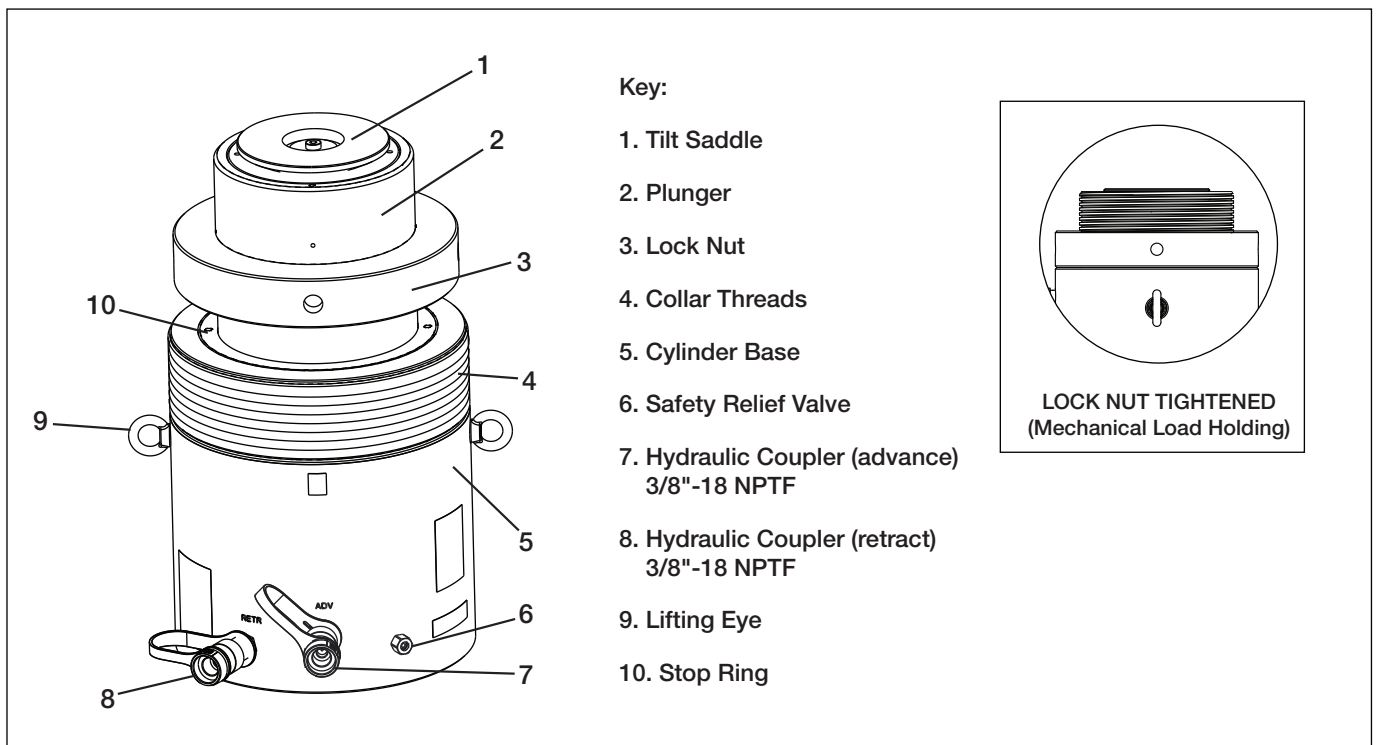

Figure 2, Major Features and Components
Refer to Figure 2, items 7 and 8 for locations.
HCRL-Series cylinders include a retract side safety relief valve. It is located near the bottom of the cylinder base. See Figure 2, item 6.